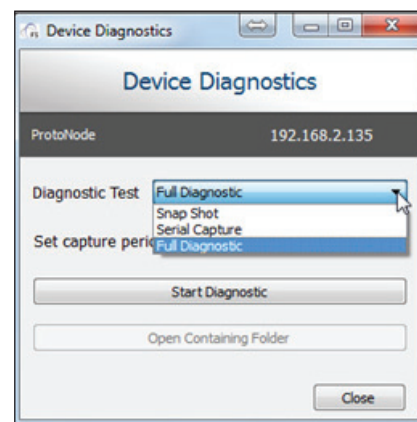

Figure 24: Full Diagnostic
9. Select Full Diagnostic. See **Figure 24**.